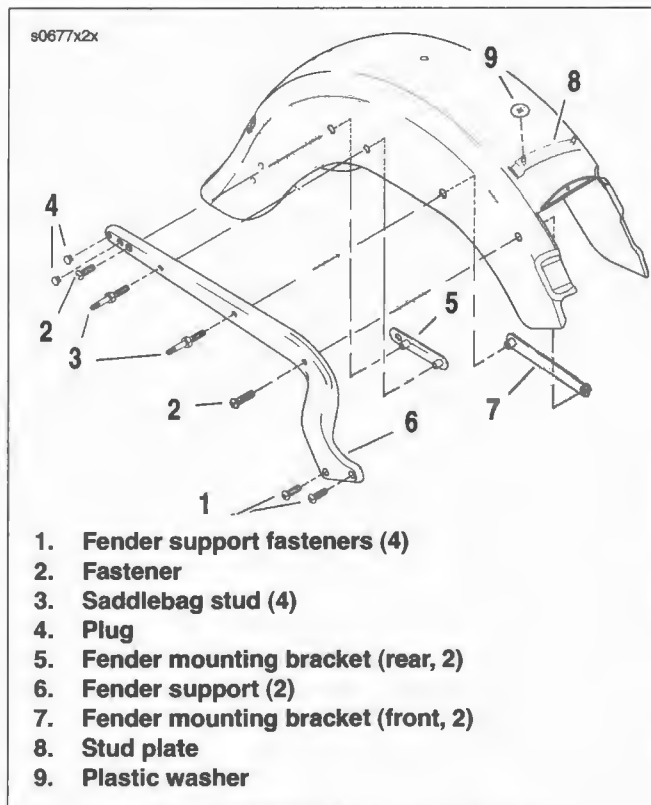

Figure 2-131. Rear Fender: FLSTC
7. See Figure 2-131. Remove screws (2) and saddlebag support studs (3) from front (7) and rear (5) fender mounting brackets.
- a. FLSTC models, see Figure 2-131.